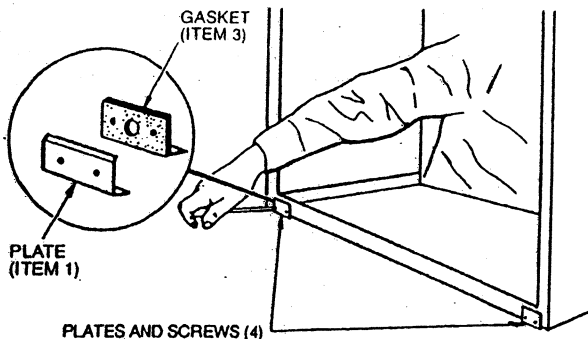

Fig. 4 — Installing Plates on Sleeve
1. Remove backing from 2 gaskets (item 3) and affix adhesive side of gaskets to *inside* of 2 plates (item 1). Line up both holes on plate with both small holes on gasket. Gasket will wrap around the inside flange of plate. See Fig. 4.
2. Place plate assemblies over condensate drain openings in bottom rear flange of sleeve. See Fig. 4.